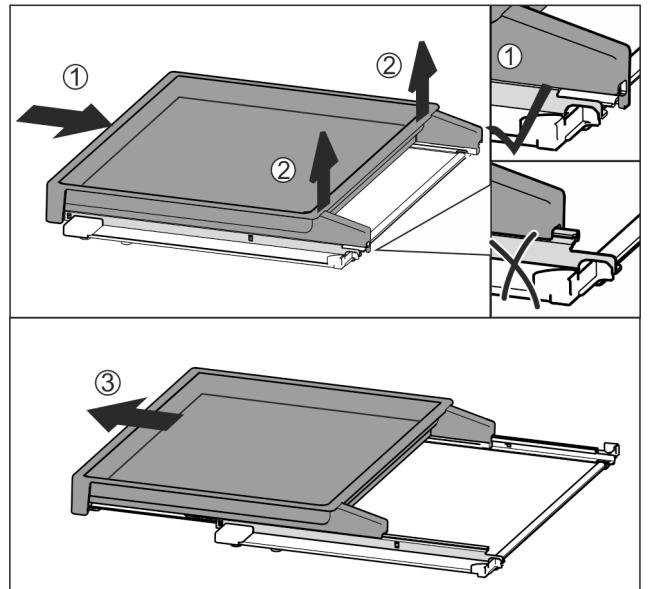

Fig. 77
- ▶ Slide the pull-out board all the way in Fig. 77 (1).
- ▶ Release the clips at the back Fig. 77 (2).
- ▶ Remove the pull-out board from the front Fig. 77 (3).